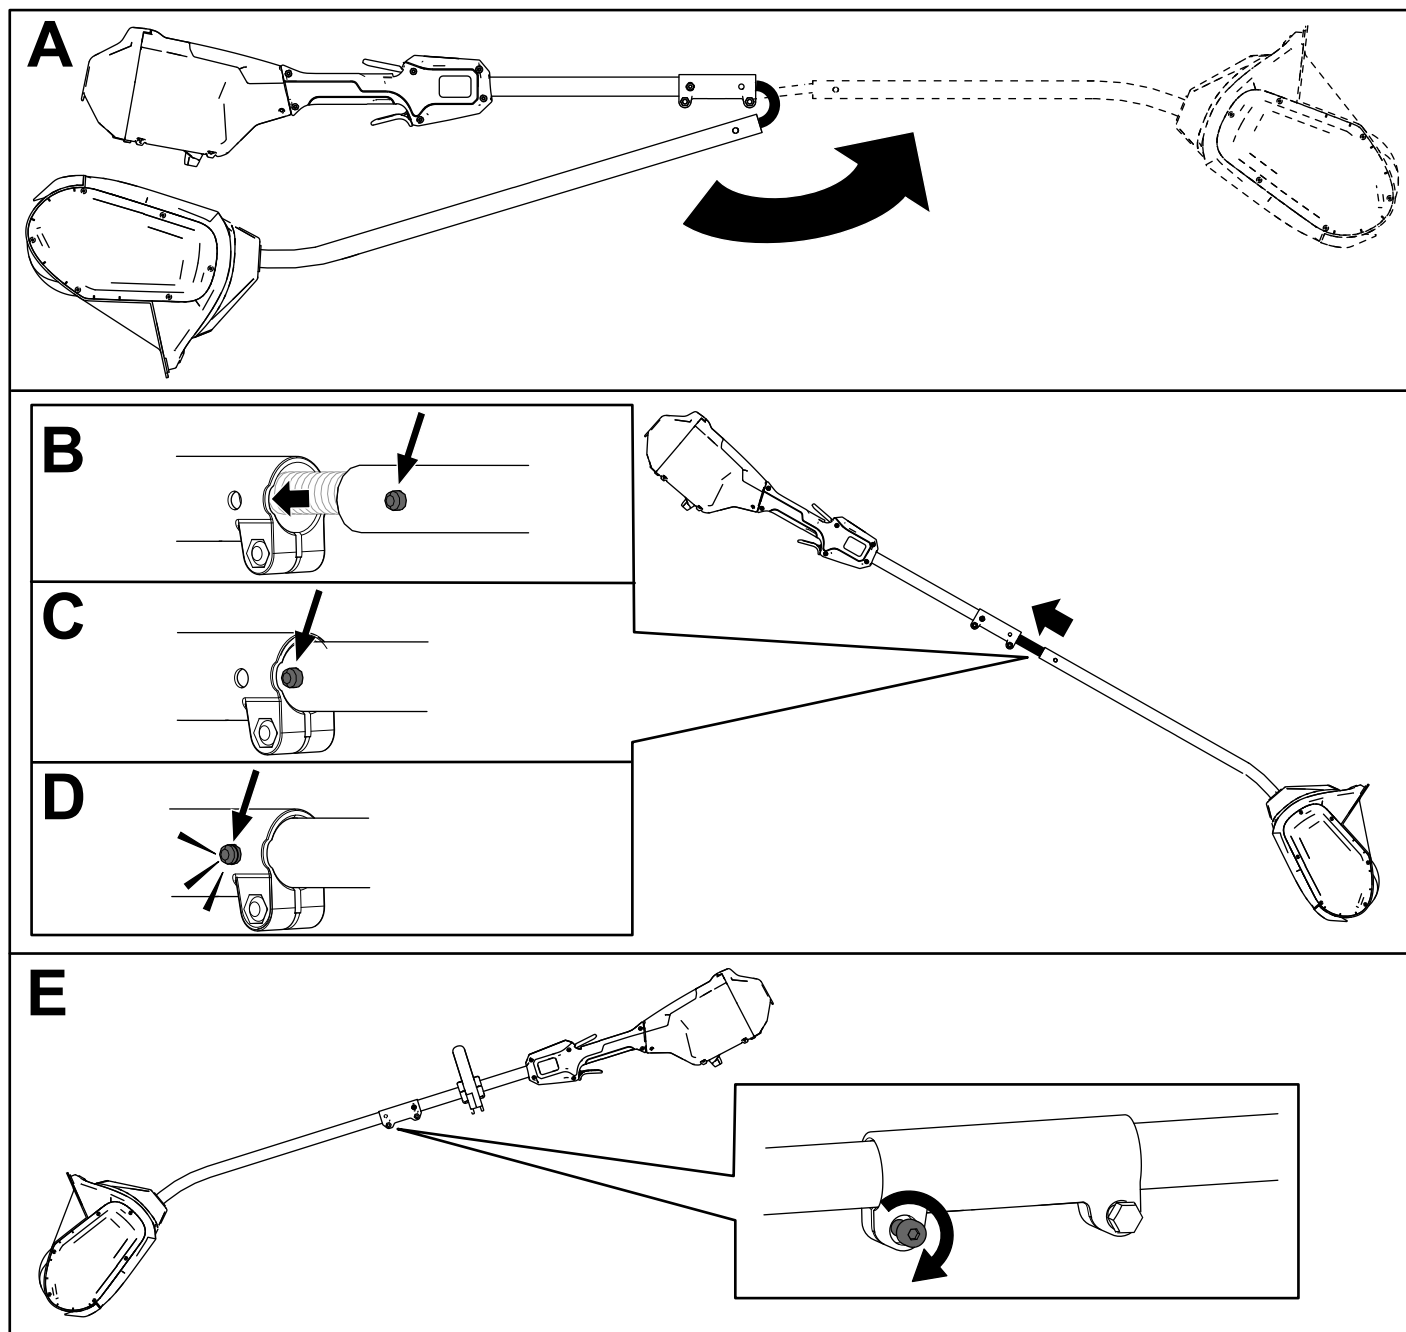

Figure 6
1. Unfold the handle (A of Figure 6).
2. Align the locking button on the lower shaft with the slotted hole on the upper shaft and slide the 2 shafts together (B and C of Figure 6).
- Note:** The locking button clicks into the slotted hole when the shafts are secured (D of Figure 6).
3. Using the provided Allen wrench, tighten the screw on the shaft connector until it is secure (E of Figure 6).